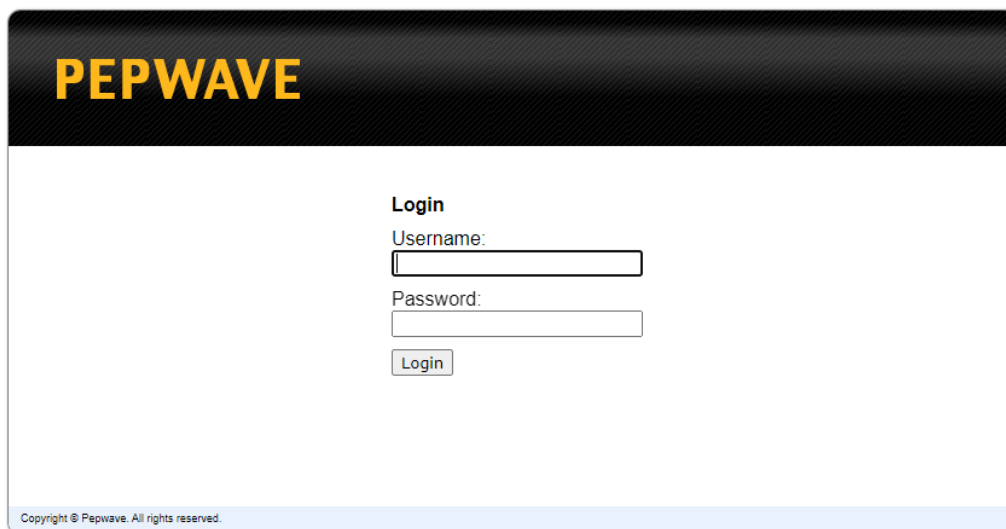

Figure 34: Access PEPWAVE.
- A. Open a web browser on the computer and type 192.168.50.1 into the address bar. This will bring up the PEPWAVE, shown in Figure 34.